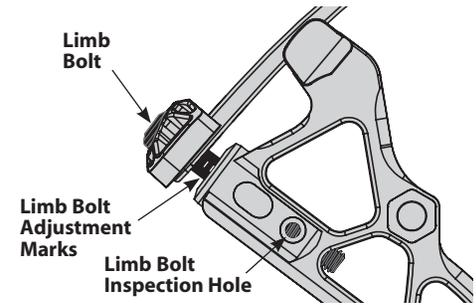

Figure 4: Draw Weight Adjustment (Core)
Draw weight on these models can be adjusted 30 pounds down from the bow's peak draw weight. For example, the bow is shipped at 70 pounds and the draw weight can be adjusted down to 40 pounds. The procedure is as follows (**see Fig. 4**):
1. Before adjusting limb bolts, note setting on limb bolt adjustment marks for future reference (**See Figure 4**).